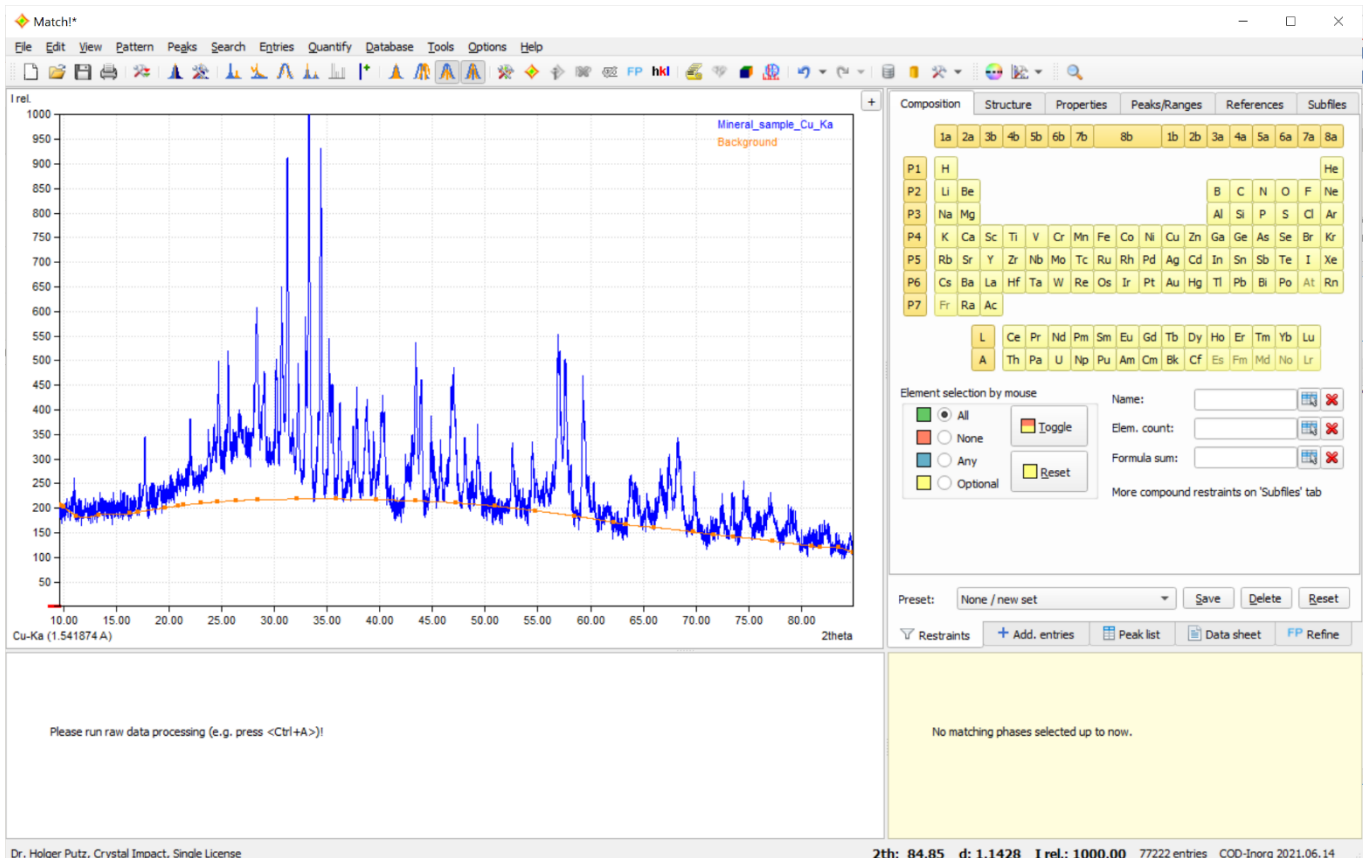

Fig. 23: Your sample's diffraction pattern has been imported for degree-of-crystallinity analysis (DOC).
4. Define/check/modify the background so that it clearly separates the diffraction peaks from the background (Fig. 23).